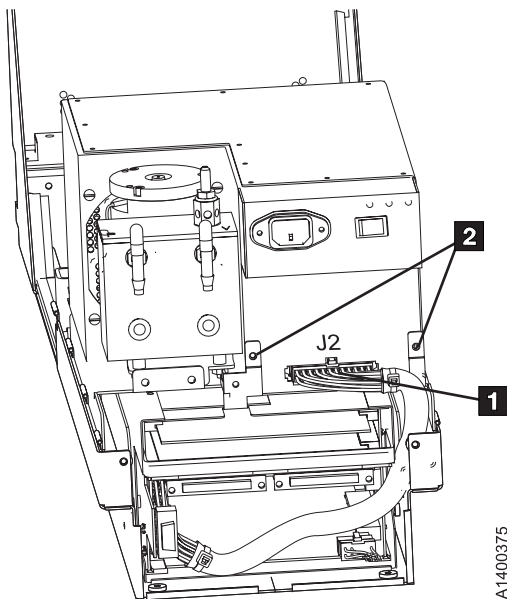

Figure 10-84. Power Supply Cable
4. See Figure 10-84. Disconnect the power supply cable **1** from the power supply at connector J2.